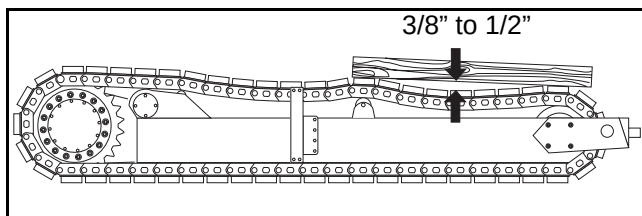

Figure 6 - 59 Proper Track Tension
- 5) A properly tensioned track should have a 3/8" to 1/2" gap between a straightedge and the track. (Figure 6 - 59)